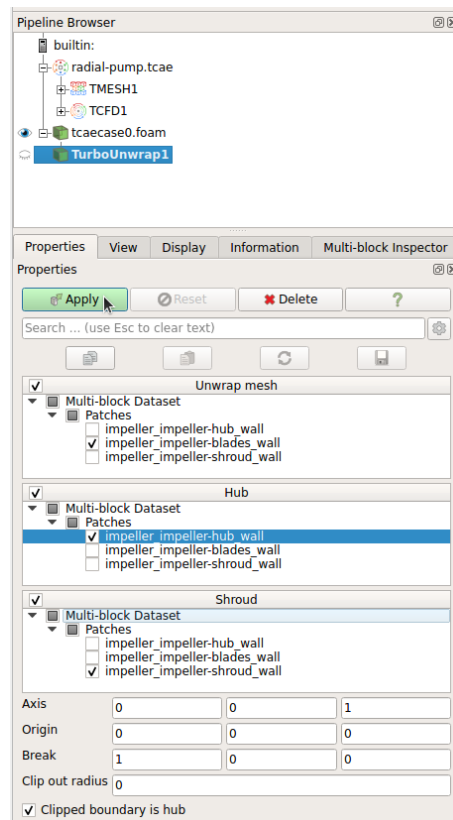

Figure 16.22: Turbo Blade Post – Settings of the Turbo Blade Post / Turbo Unwrap filter for transformation of blades of the pump.
Step 3 — The basic properties of the filter **Turbo Unwrap** are shown in the Fig. 16.22. When the advanced options are hidden, there are only a few options to define. First of all, it is necessary to choose the blade wall patch, that will be transformed, and the hub and shroud patches, which will serve as a leaders to define the transformation. After the transformation is done, hub and shroud will be perfectly flat and parallel to each other, conformly deforming the mesh in between. If multiple mesh parts are selected in the "Unwrap mesh" window or multiple patches are selected in "Hub" or "Shroud" windows then they will be internally merged into a single entity before proceeding. In this example the mesh is well prepared and we can just select the three items that we loaded in the first step.